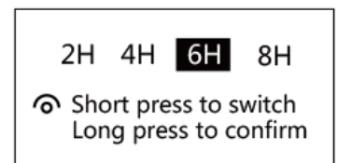

Figure 8
3. Select the start-up delay by pressing briefly, then confirm by pressing and holding (Figure 8).